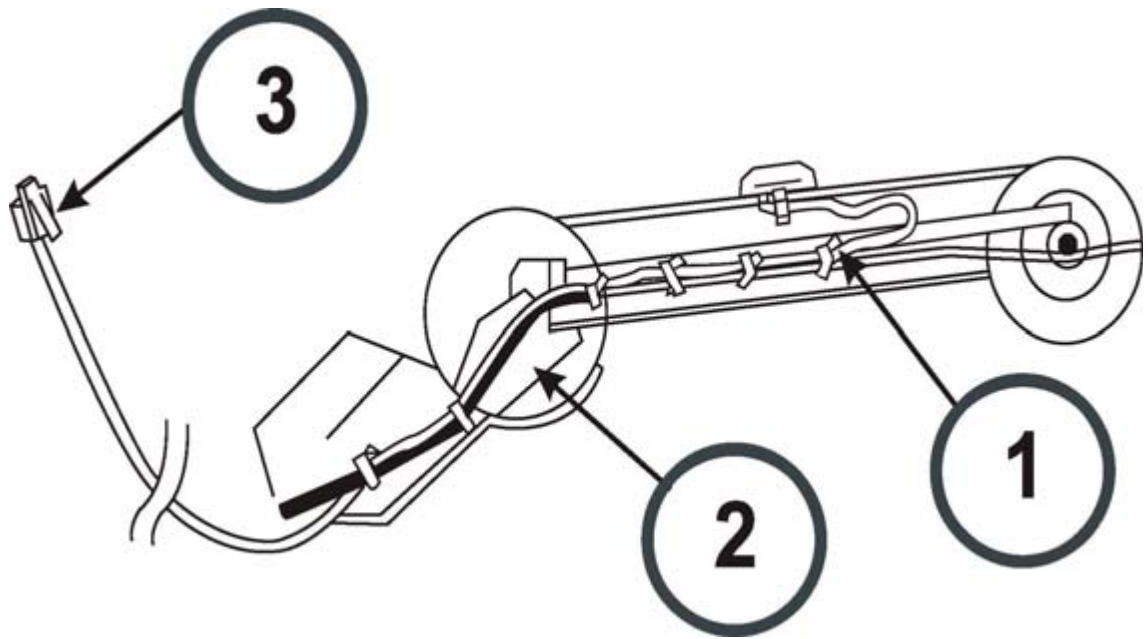

Fig. 5: Cabling
- Route the sensor cable to the remote control board. Refer to \(1-3/Fig. 5 / p. 9\).
- Ensure that there is no cable strain \(2/Fig. 5 / p. 9\) during movements of the arm.